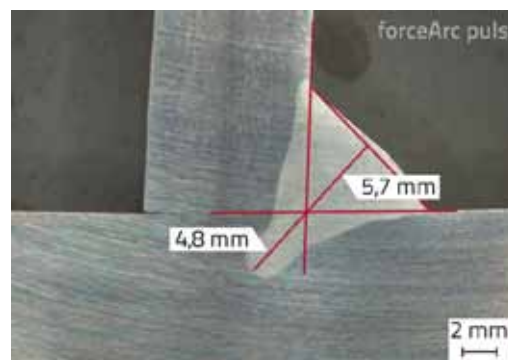

Figure 4: forceArc puls penetration characteristics
The comparison of Figures 4 through 8 permits the following assertion:
- forceArc puls achieves a greater penetration depth with symmetrical seam formation, which is structurally favourable for the strength of the connection (see Figures 4–6 and 10).